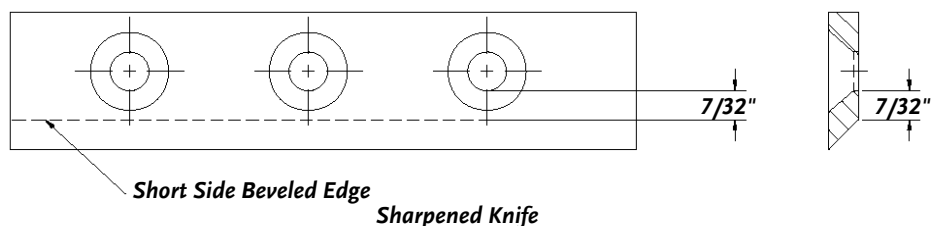

Figure 18
- Once this measurement is below $7/32$ " (see **Figure 18**), or if you are unable to remove dents or gouges with these guidelines, replace the Knife.